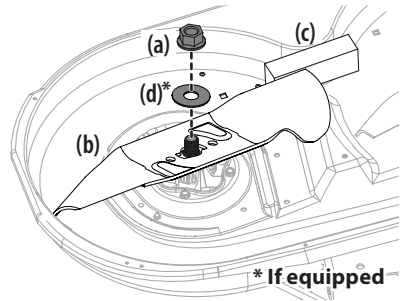

Figure 51
2. Use a 15/16" wrench to hold the hex nut on top of the spindle assembly when loosening the hex nut (a) and washer (d)* securing the blade (b). A block of wood (c) may be placed between the deck housing and the cutting edge of the blade (b) to help in breaking loose the hex nut (a) and washer (d)* securing the blade. See Figure 51.
3. When re-installing blades, be sure of the following (see Figure 51):